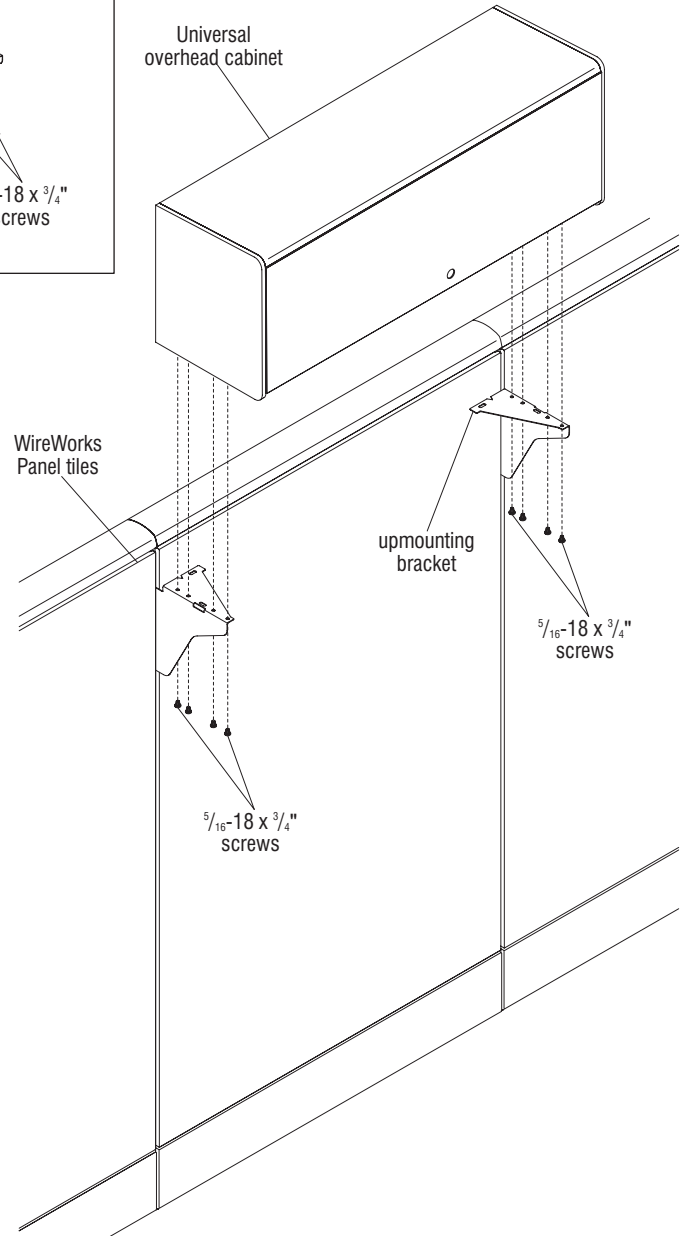

Figure 3
6. Carefully position overhead cabinet or shelf on top of brackets aligning the four round holes in each bracket with the four $\frac{1}{8}$ " diameter pilot holes in the cabinet (Figures 3 & Detail C).
7. Insert and tighten all eight $10 \times \frac{1}{2}$ " self-tapping screws (Figures 3 & Detail C).